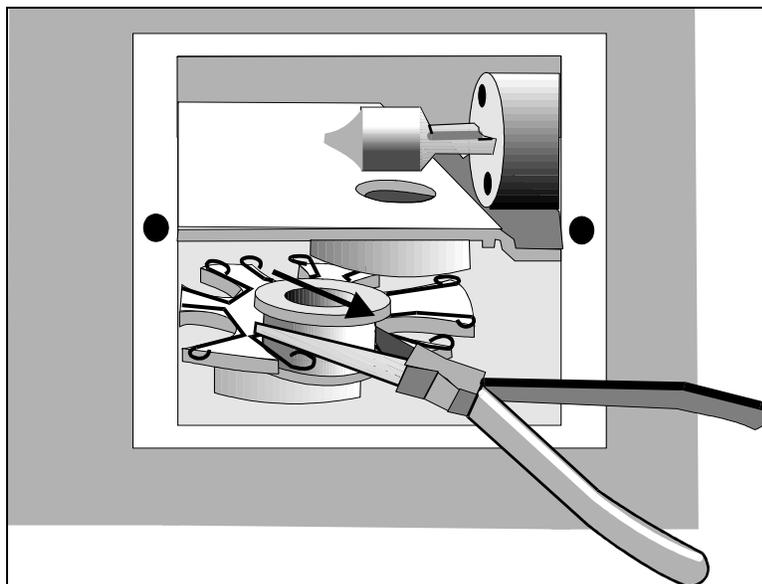

Figure 11-2 Removing the Filter Wheel
- 2 Remove the Filter Access Panel on the rear of the Reader Module to expose the optical assembly. The filters are mounted on the filter wheel as shown in Figure 11-2.